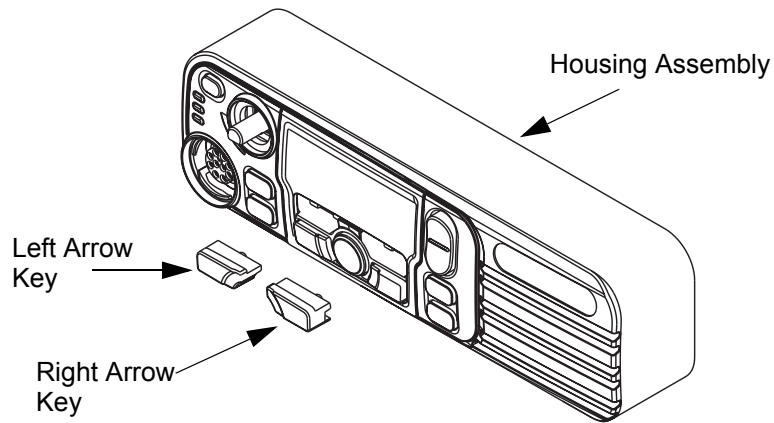

Figure 5-29 Left and Right Arrow Key Assembly
7. Assemble the left and right arrow keys into the openings in the control head housing and press into place as shown in Figure 5-29.